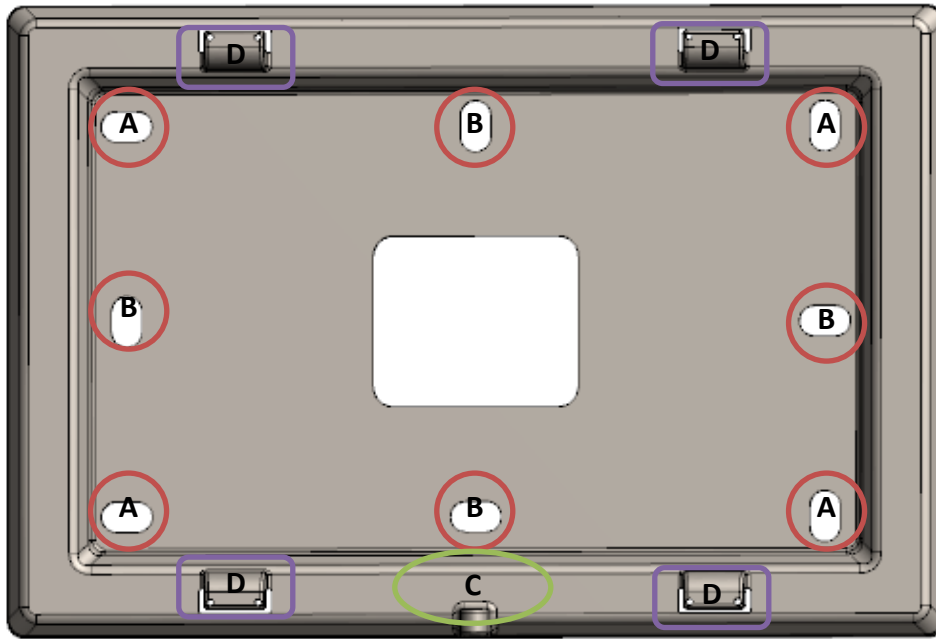
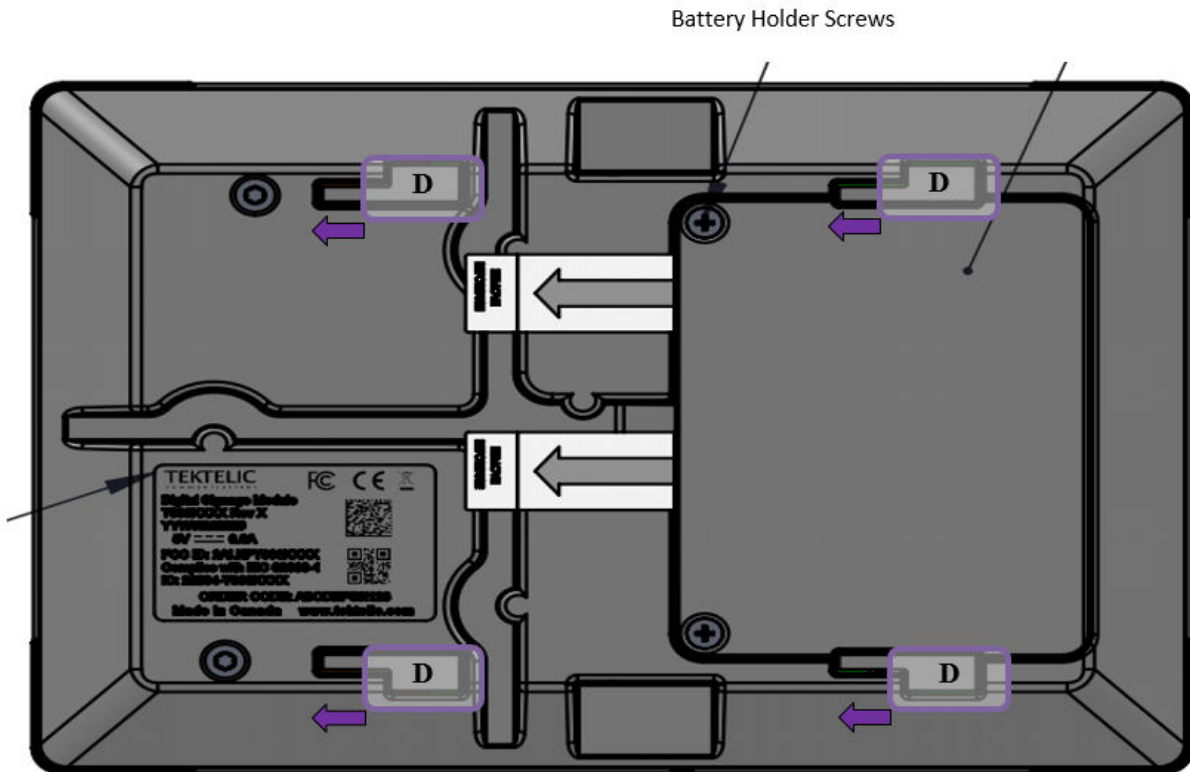

Figure 2-3: Wall mount plate.
Figure 2-4: Tablet back side
- Thread the Ethernet and/or Power cables through the rectangular opening in the wall plate. Ensure that the lock screw feature marked as "C" in Figure 2-3 is facing away from the mounting surface.
- Secure the mount plate on the mounting surface using 4 x M4 screws in locations A or B as shown in the Figure 2-3.
- To install the Tablet, first align the hooks on the mounting plate to the slots on the back of the Tablet (See features marked as “D” in Figure 2-3 and Figure 2-4), then push the Tablet onto the plate. Slide the Tablet to fix the Tablet in place.